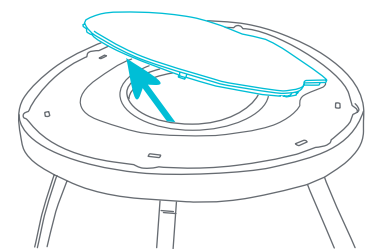

Fig. 4b
- To remove the platform apply pressure from underneath at the pointed side of the platform while holding down the tabletop (Fig. 4b). The platform should release easily.